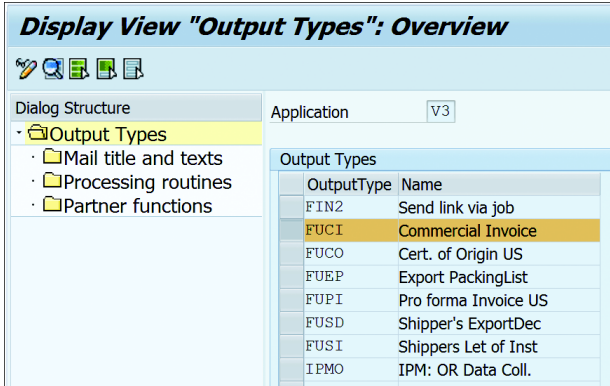

Figure 18.28 Display View of Output Types
2. Select the output type that should be configured, and double-click the `PROCESSING ROUTINES` folder, as shown in Figure 18.28.